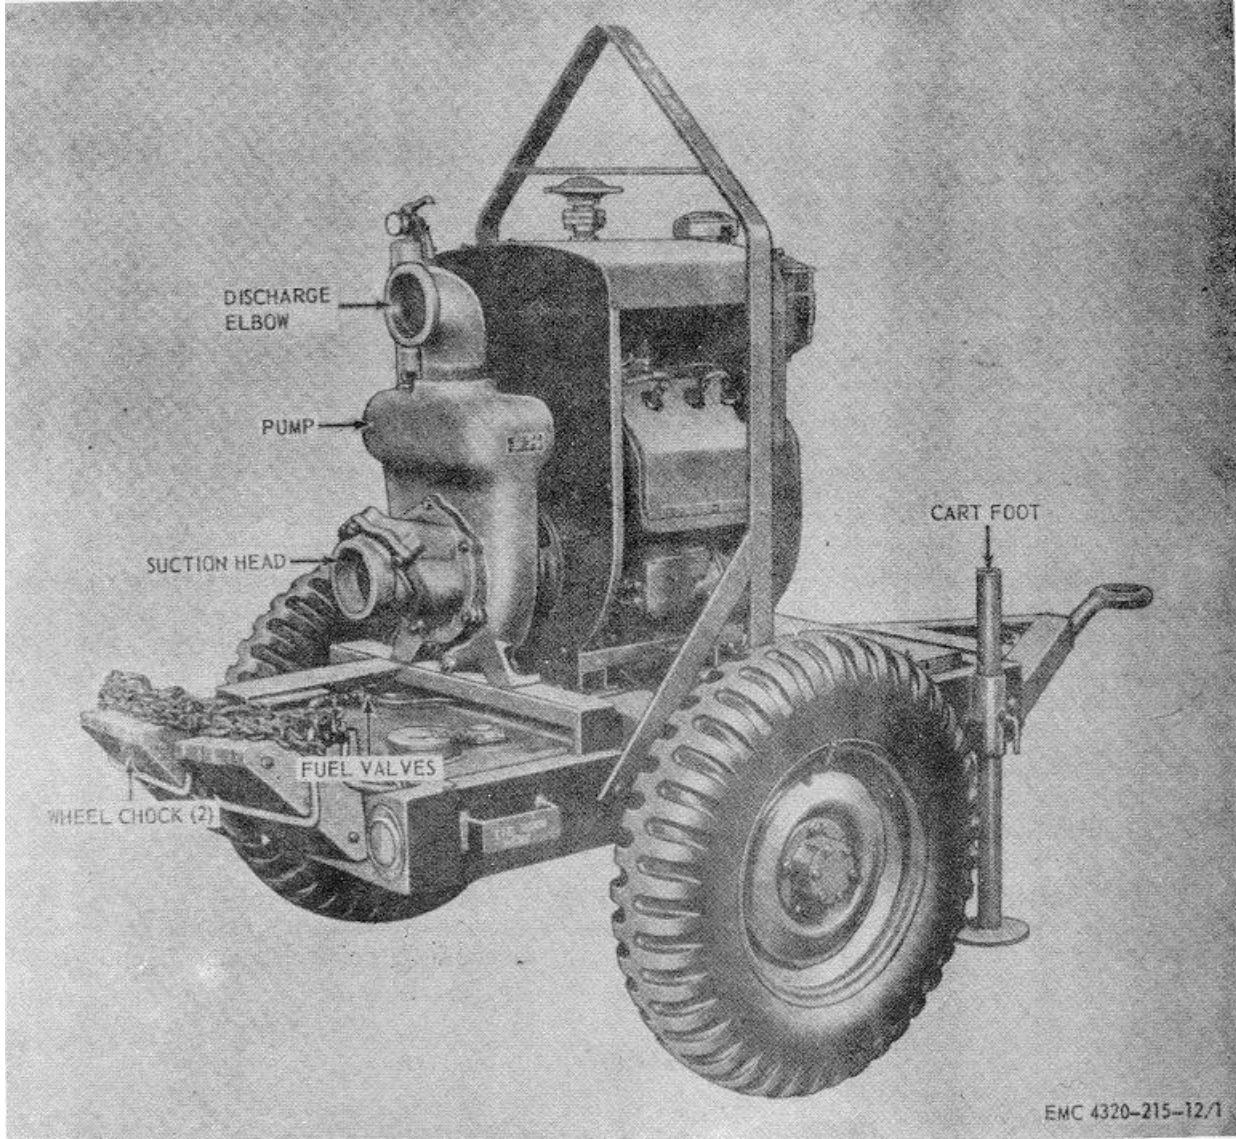

Figure 1. Centrifugal pump, right rear, three-quarter view.
a. *General.* The Carver Centrifugal Pump (figs. 1 and 2), Model K400S, is a self-contained, wheel-mounted, fresh water pump. It consists of a gasoline engine (fig. 1) and a centrifugal-type pump (fig. 2). The engine of the pumping unit is completely enclosed and is equipped with doors for easy access to all components. The unit is equipped with two 12-v (volt), 100-amp (amperes) batteries and box (fig. 1), a battery-charging generator and the necessary controls and instruments. A lifting bail (fig. 1) is provided for lifting the pumping unit.
b. *Pump.* The pump (fig. 2) is a self-priming, pedestal-mounted, centrifugal-type unit designed for pumping fresh water. The pump is directly coupled to the engine (fig. 1).